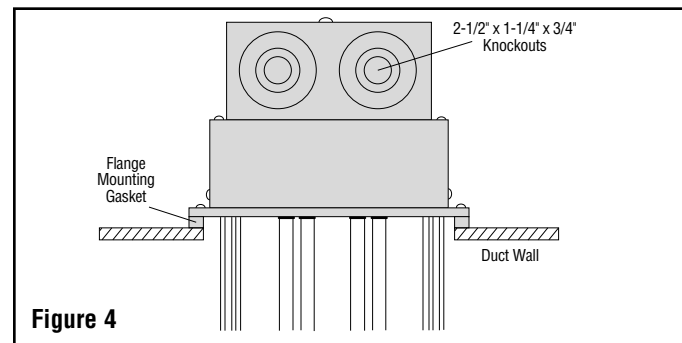

Figure 4
- Flange mounting gasket — Packed separately with each duct heater to minimize air leakage between the flange and air duct. Refer to Table B and Figure 4.